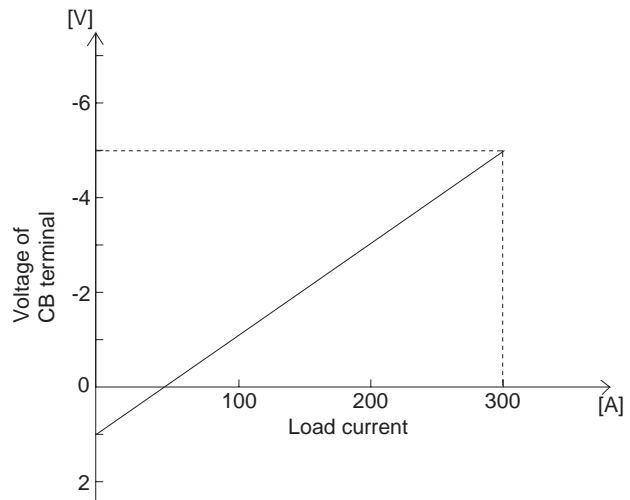

Fig.6.1 Load current conversion graph (PBA1500F-5)
■ Fig.6.1 shows the relationship between the voltage of the terminal CB and the output current.
Fig.6.1 shows a typical characteristic of PBA1500F-5. Please contact us for the characteristics of the other models.
The output current shown in Fig.6.1 should be used only as a guide.